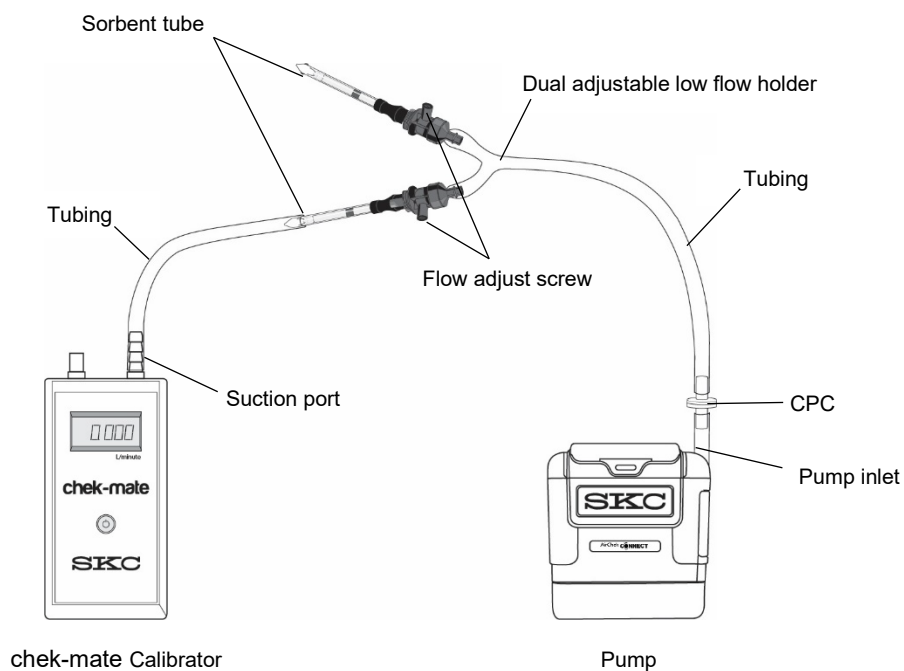

Figure 5. Calibration Train (5 to 500 ml/min) for Multiple Tubes — Constant Flow
- Multiple-tube sampling can be done using a Constant Pressure Controller (CPC) (Figure 5) and a Dual, Tri, or Quad Adjustable Low Flow Tube Holder accessory. See CPC and Adjustable Low Flow Tube Holder operating instructions for details on operation.
1. On the tube holder, insert an opened representative sorbent tube (arrow on tube pointing toward the pump) into the rubber sleeve on the port. Repeat for the desired number of tube samples. See *Figure 5*. **Note:** Place an unopened (inactive) tube in any unused port to “seal” it.